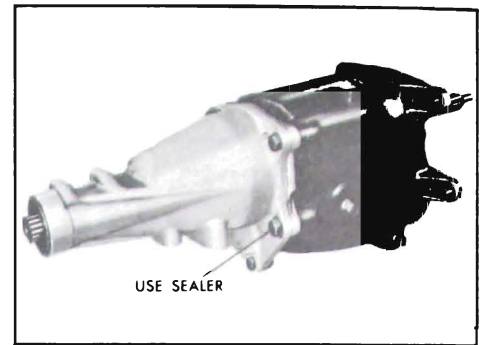

Figure 4-149—Sealing Case Extension Attaching Bolt
19. Install three extension and retainer to case attaching bolts (torque to 35 to 45 ft. lbs.) and two extension to retainer attaching bolts (torque to 20 to 30 ft. lbs.). Use suitable sealer on the lower right attaching bolt as viewed from rear. See Figure 4-149.